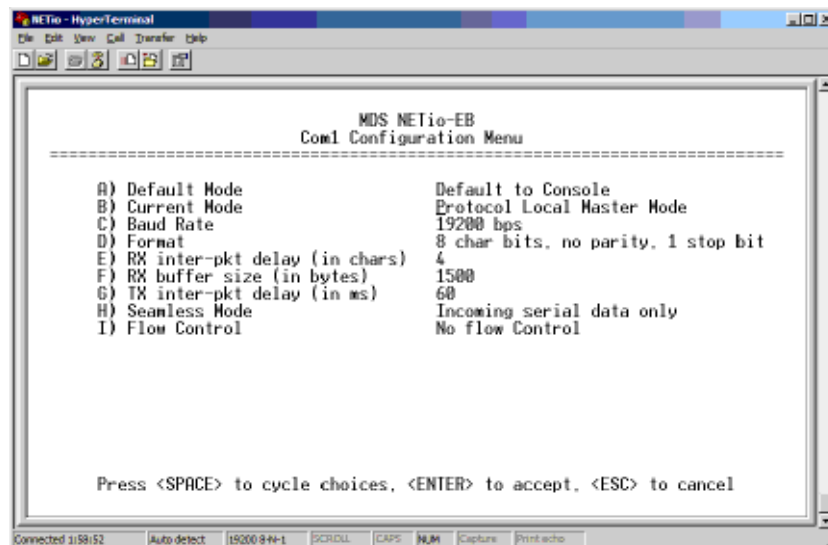

Figure 6-31. Com1 Configuration Menu
1. From the NETio Main Menu select **Com1 Configuration** to reach the Com1 Configuration Menu shown in Figure 6-31.